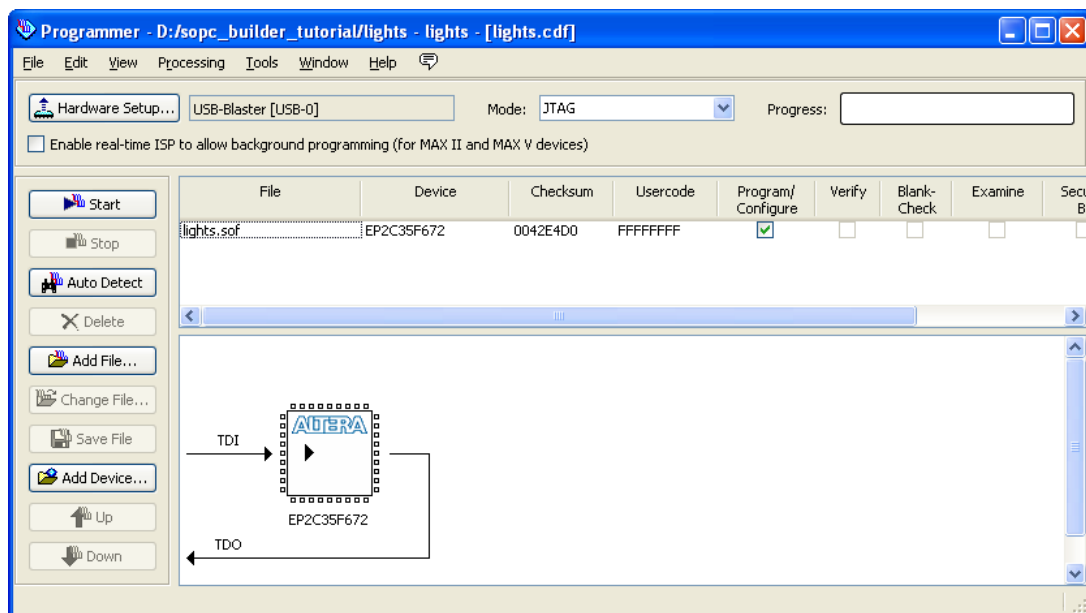

Figure 19. The Programmer window.
2. Select Tools > Programmer to reach the window in Figure 19.
6. At this point the window settings should appear as indicated in Figure 19. Press Start to configure the FPGA.